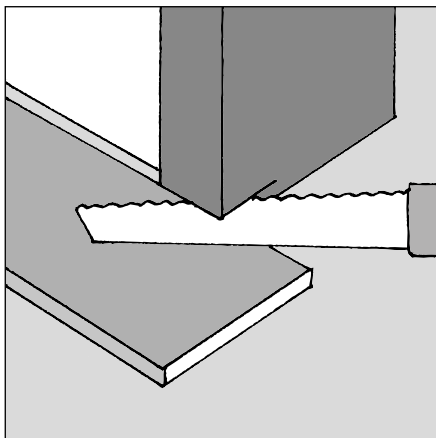

Figure 6.18 Door frames
6.27.7 Door Frames (Figure 6.18)